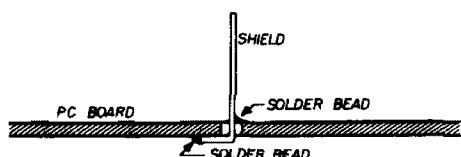

fig. 14. installation of shields on the printed-circuit board.
6. Add the shields to the rf stage; 0.005 to 0.010-inch copper is suggested. If significantly thicker material is used, soldering to the PC board may be a problem (see fig. 14).
ends of the inductors; a small bead of solder is run along the bottom of the shield as shown in fig. 14.